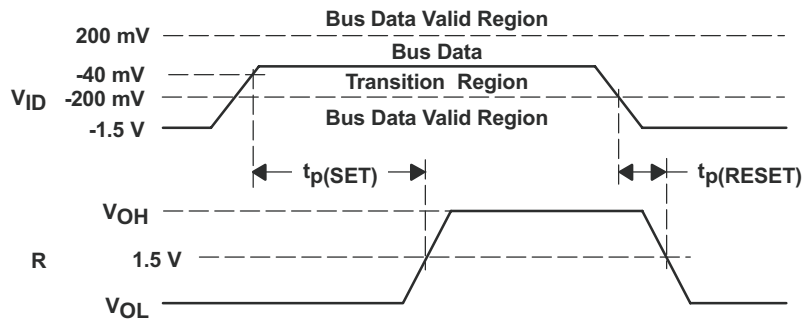

Figure 23. Receiver Active Failsafe Definitions and Waveforms
- (1) H = high level, L = low level, Z = high impedance (off)
(2) If the differential input  $V_{ID}$  remains within the transition range for more than 250  $\mu\text{s}$ , the integrated failsafe circuitry detects a bus fault, and set the receiver output to a high state. See Figure 23.